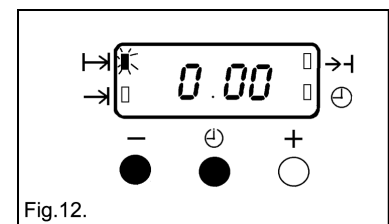

Fig.12.
- i) To cancel an automatic programme press the Selector Control button until the 'Cook Time' indicator (I→) neon flashes. Press the decrease control (-) until the display reads 0.00 as Fig. 12.